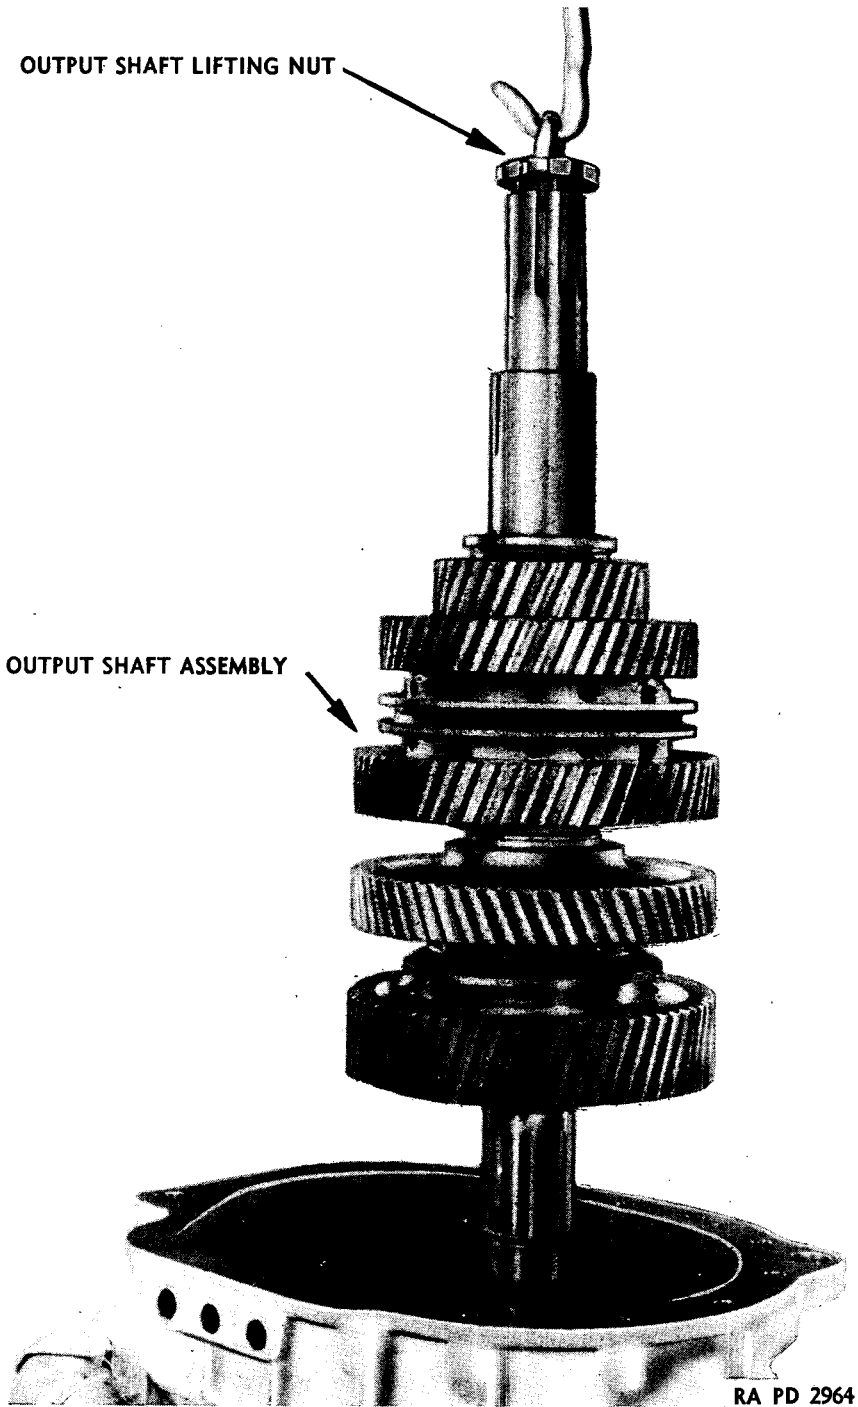
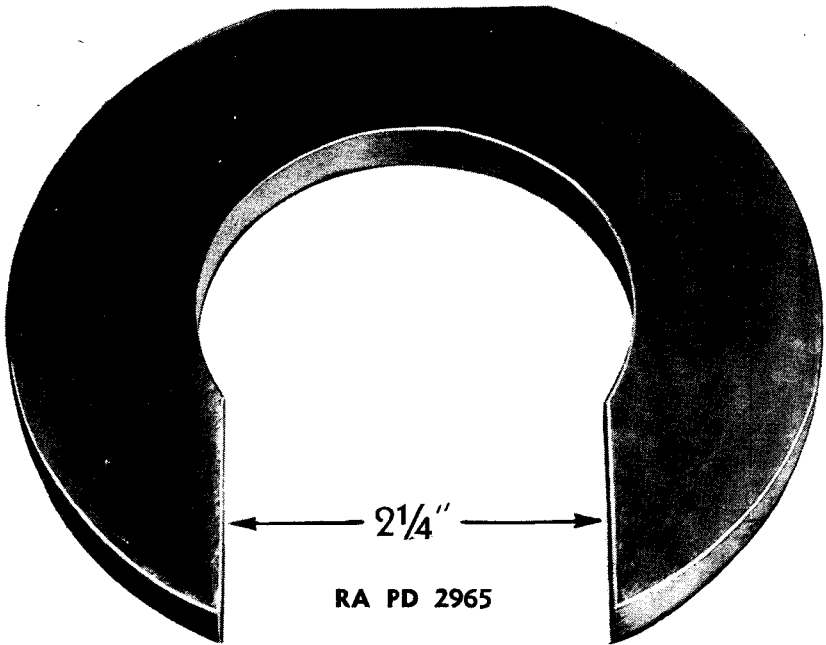

FIGURE 34 — REMOVING OUTPUT SHAFT
FIGURE 35 — TOOL USED TO REMOVE REAR COUNTERSHAFT BEARING
(21) Remove output shaft assembly (*fig. 34*). Screw lifting nut on rear end of output shaft and attach hoist. Raise slowly. The countershaft must be freed before output shaft assembly can be removed. Use bronze mallet to hammer on front end of countershaft bearing, raising output shaft as countershaft comes up. When front countershaft bearing is free, hammer on rear end of it with bronze bumping bar until it comes off shaft. A special tool (*fig. 35*) will be useful in removing rear countershaft bearing. It is simply a large metal washer with a section cut out. Lift countershaft assembly sufficiently to insert tool between bearing and support. Hammer down on shaft, with a short brass rod and hammer, until shaft is free of bearing. Countershaft will then be loose